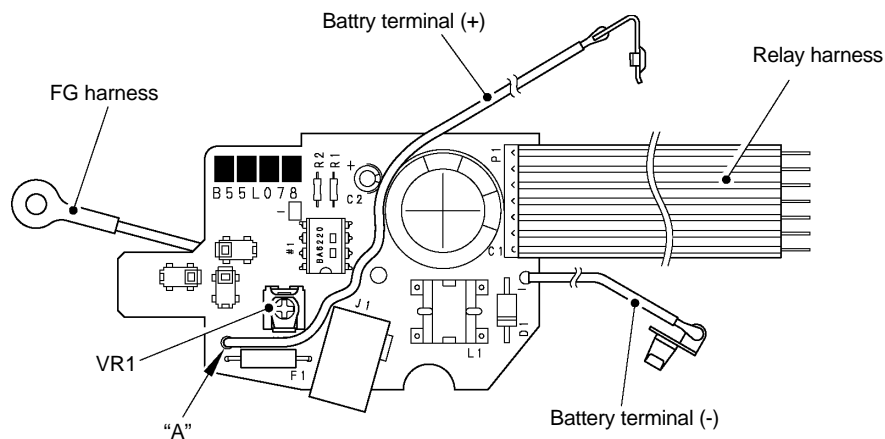

Fig. 2.2-20 Details of Battery Terminal (+)
- (1) Relay harness is solder connected to the sub PCB.
- (2) After pushing the "A" section of battery terminal (+) of sub PCB ASSY, perform the wiring. (Refer to Fig. 2.2-20)
- (3) Set the sub PCB into the locating pin and AC jack groove, and tighten the screw, confirming that each of the sensor switch actuators is fitted into the hole of the bottom cover certainly and moves up and down freely.